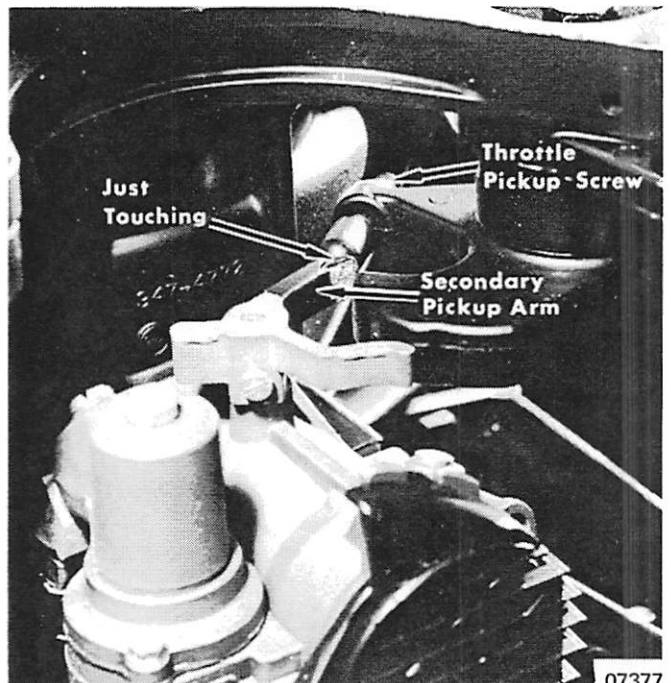

Figure 4. Adjusting Secondary Throttle Pickup
4. Position spark advance arm against spark stop screw. DO NOT actuate throttle arm. Adjust throttle pickup screw so that it just touches secondary pickup arm (located on carburetor cluster). Tighten locknut after adjustment. (Figure 4)